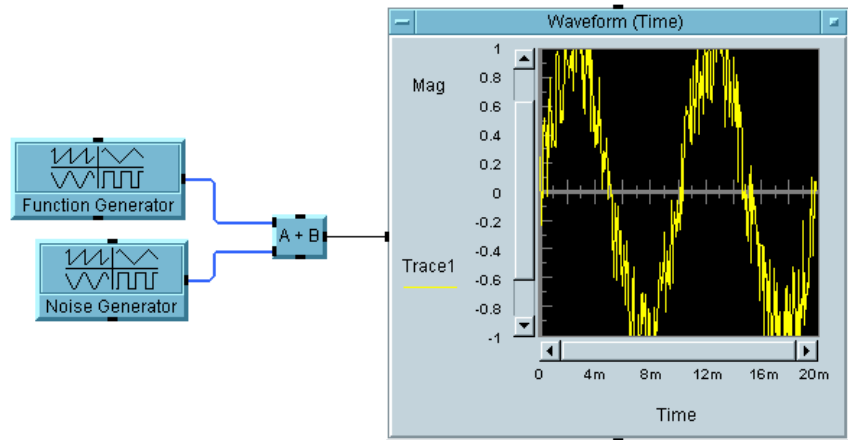

Figure 2-2. usobj-program.vee at an Early Stage
5. Then, minimize the `Noise Generator` object and rearrange the objects as shown Figure 2-2.